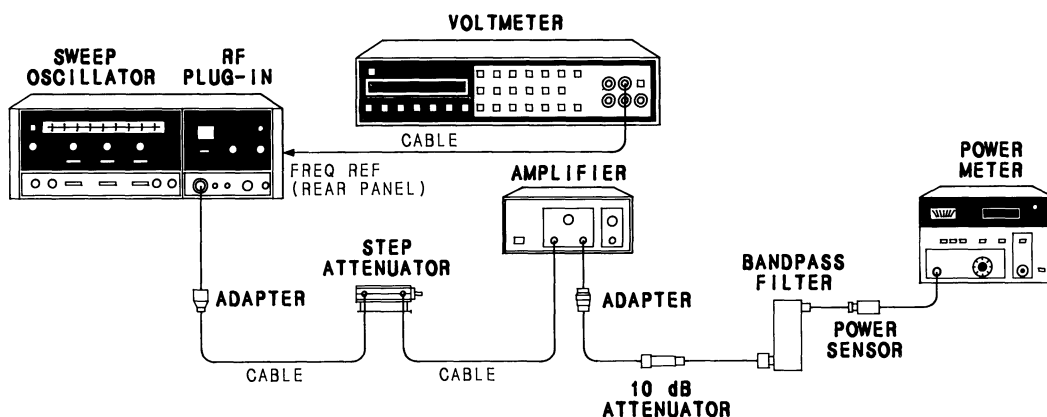

Figure 4-5. Harmonic Distortion Test Setup
2. Connect the equipment as shown in Figure 4-5. Use the 4 – 8 GHz (HP P/N 0960-0402) bandpass filter in the setup.